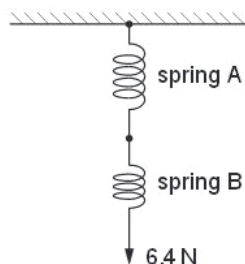

Fig. 6.2
- (c) A second spring B of spring constant $2k_A$ is now joined to spring A, as shown in Fig. 6.2.